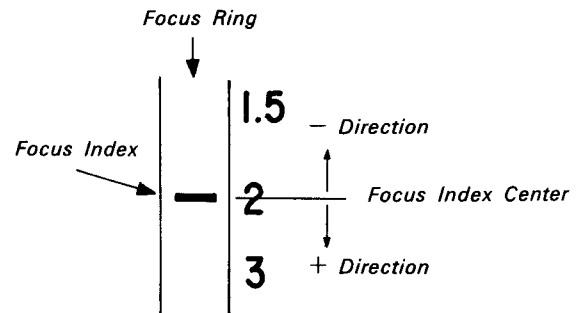

Fig. 1-7.
- 5) Move the Z-frame to and fro (A→B direction) until the focus ring stops at the center of index "2" (Fig. 1-7, 8).
- 9) Confirm that focus ring stop position (index position) is within $+10$ mm from the center of "2" (Fig. 1-7).